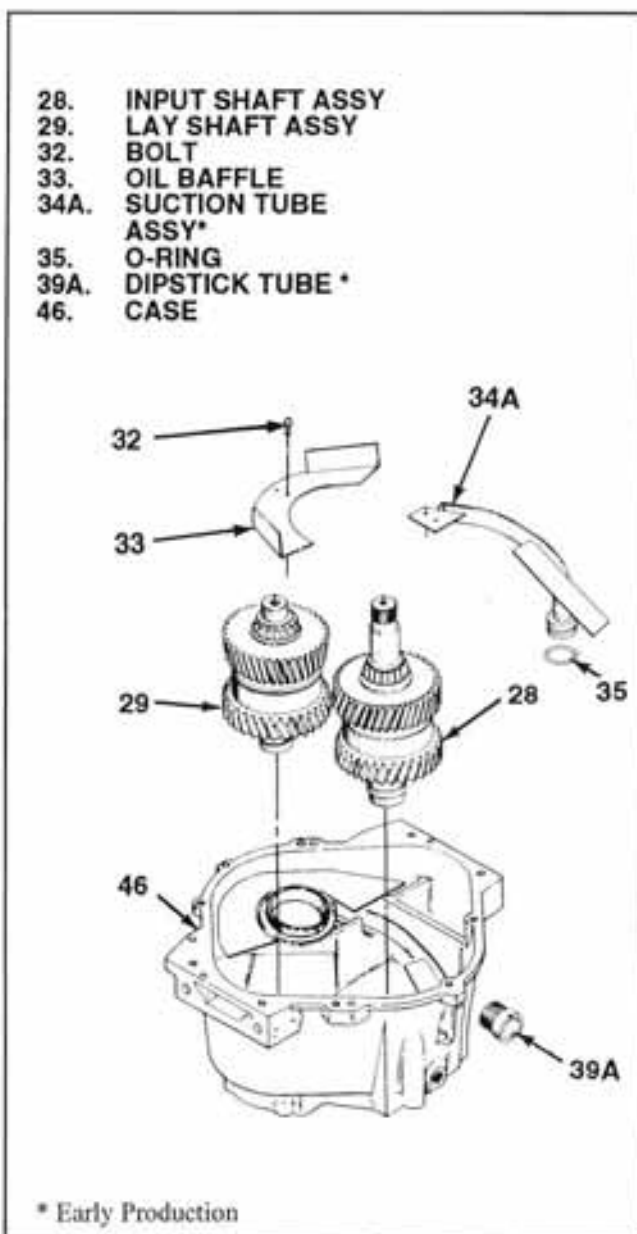
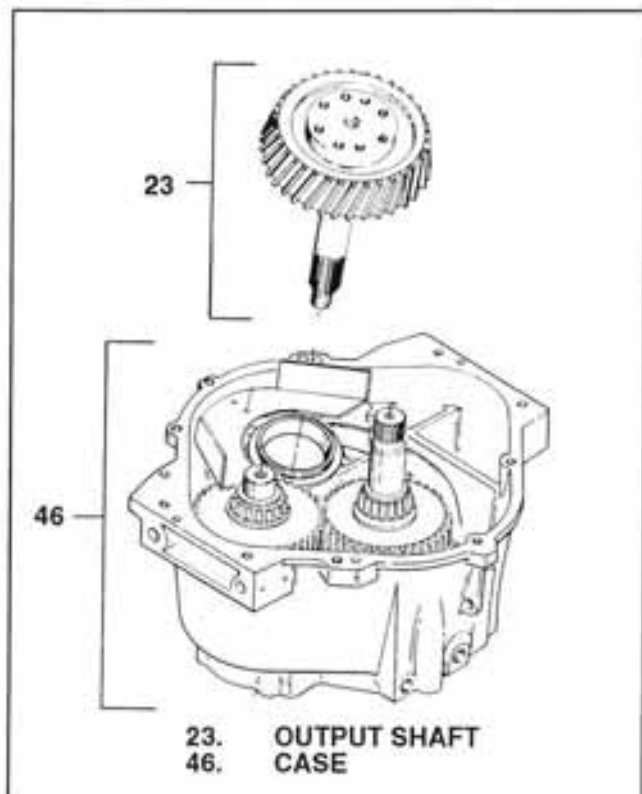

Figure 5-15. Input and Lay Shaft Assemblies
Figure 5-16. Installing Output Shaft/Gear Assembly
ASSEMBLIES. Using lay shaft assembly as assembled in paragraph 5-4, input shaft assembly as assembled in paragraph 5-8 (see figure 5-15) and output shaft as assembled in paragraph 5-18 step "i" proceed as follows (see figure 5-16).
NOTE: If oil pick up tube (34A see figure 5-15) is used, perform step "2" before step "1".
1. Install oil pick up tube (34), oil baffle (33) and secure with two bolts (32). Use Loctite ® 242 on bolts (32).
2. Position lay shaft/clutch assembly (29) and input shaft/clutch assembly (28) in case (46). (see figure 5-15).
4. Carefully insert output shaft/gear as illustrated in figure 5-16.
5. Install output flange (18) and flange nut (17) to hold assembly in place. It can be tightened later.